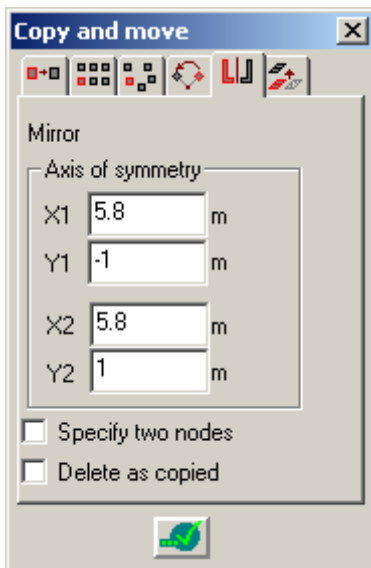

Figure 1.5.5 **Copy and move** dialog box (**Mirror copy** tab)
- click the **Mirror** tab (see Fig.1.5.5);